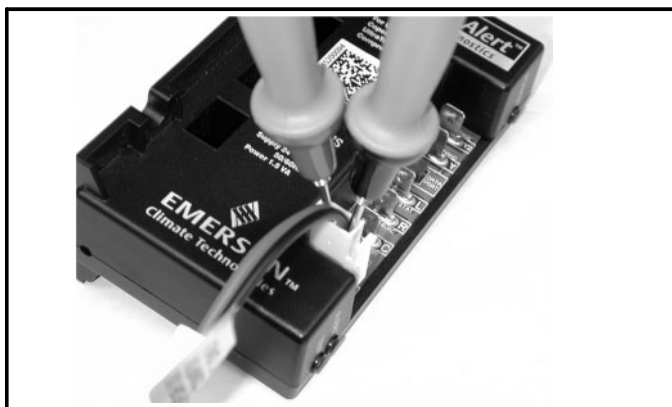

FIGURE 10
- 2-. Insert lead wires from voltmeter into back of the red and black wire plug jack that feeds power to compressor solenoid coil. Set voltmeter to DC volt scale to read DC voltage output from LSOM II plug. See figure 10.